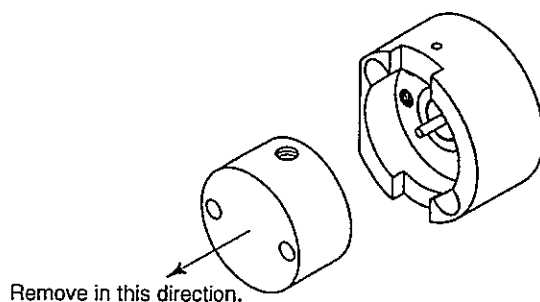

Figure 9.3 Removing the pump head
- (4) Gently remove the pump head keeping it horizontal. See Fig. 9.3.